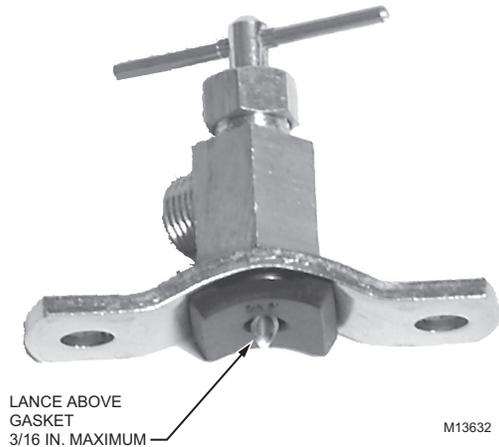

Fig. 34. Positioning Saddle Valve for installation with steel pipe.
3. Turn the handle to expose the lance beyond the gasket no more than 3/16 in. See Fig. 34.